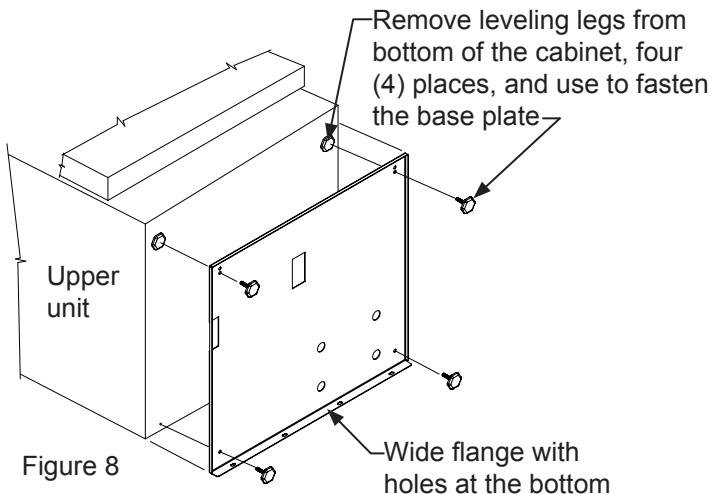

Figure 8
1. Lay the upper unit on its back and remove the (4) leveling legs from the bottom of the unit. Use the slip joint pliers if necessary. (Minimize the time it is on its back to reduce oil from leaving the compressor).
2. Align the base plate with the bottom of the cabinet oriented with the wide flange at the back and all flanges facing away from the upper unit. Line up the holes in the base plate with the leveling leg holes in the unit and secure the base plate with the (4) leveling legs that were removed in step 2, (see Figure 8). Securely tighten the leveling legs with the pliers. Return the upper unit to the upright position.